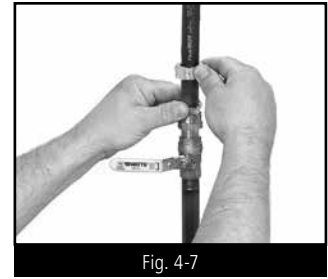

Fig. 4-7
STEP 4 POSITION BUSHINGS (FIG. 4-7)